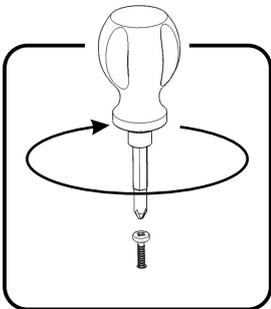

Figure 5
Attach Keyboard Front (L) to Keyboard (M) with Wood Screws. (See Figure 5)